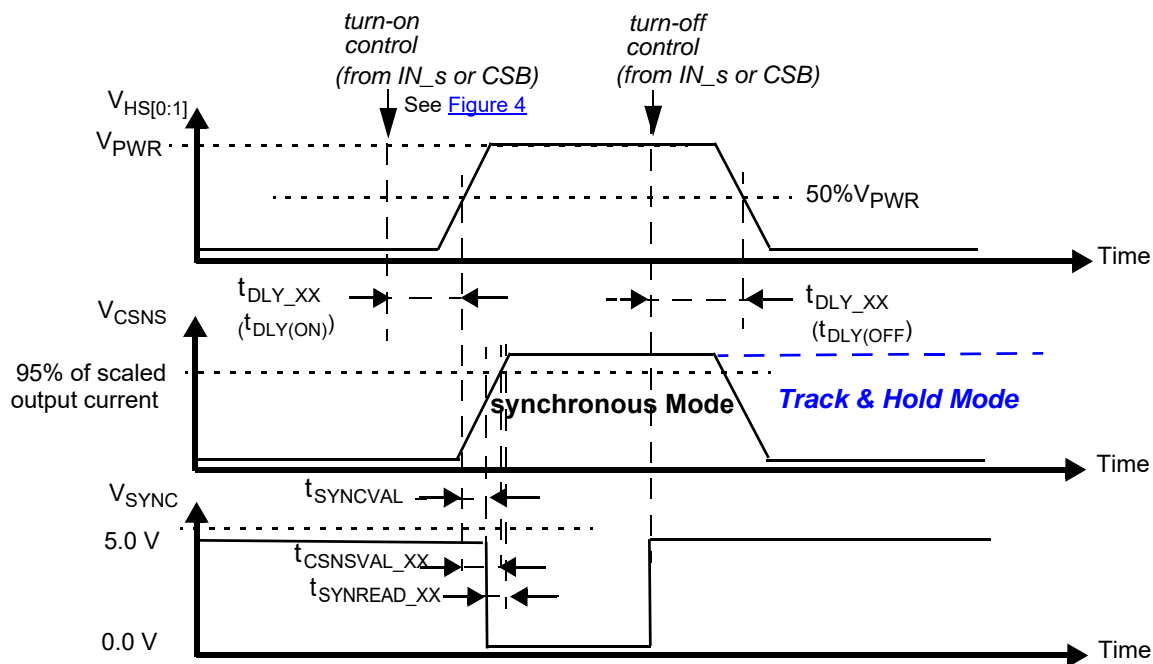

Figure 9. Synchronous and Track-and-Hold current sensing modes: associated delay and settling times
30. Time required to switch off the channel after detection of overtemperature (OT), overcurrent (OC), SC or UV error (time measured between start of the negative edge on the FSB pin and the falling edge on the output voltage until $V(\text{HS}[0:1]) = 50\%$ of V_{PWR}).
31. Settling time ($= t_{CSNSVAL_XX}$), SYNC output signal delay ($= t_{SYNVAL_XX}$) and Read-out delay ($= t_{SYNREAD_XX}$) are defined for a stepped load current using a $10\text{ }\Omega$ resistive load for $\text{CSNS_RATIO}_s = 0$. (see Figure 9 and Output current monitoring \(CSNS\)).
The CS pin allows independent current monitoring of channel 0 or channel 1 up to the steady state overcurrent threshold. It can also be used to sense the device temperature. The different functions are selected by setting bits CSNS1_en and CSNS0_en to the appropriate value (Table 23). When the CSNS pin is sensed during switch-off in the (optional) track & hold mode (see Figure 9), it outputs the scaled value of the load current as it was just before turn-Off. When several devices share the same pull-down resistor, the CSNS pins of devices the current of which is not monitored must be tri-stated. This is accomplished by setting CSNS0_en = 0 and CSNS1_en = 0 in the GCR register (Table 10). Settling time ($t_{CSNSVAL_XX}$) is defined as the time between the instant at the middle of the output voltage's rising edge ($HS[0:1] = 50\%$ of V_{PWR}), and the instant at which the voltage on the CSNS-pin has settled to $\pm 5.0\%$ of its final value. Anytime an overcurrent window is active, the CSNS pin is disabled (see Overcurrent detection on resistive and inductive loads). The current and temperature sensing functions are unavailable in Fail-safe mode and in Normal mode when operating without the V_{DD} supply voltage. In order to generate a voltage output, a pull-down resistor is required ($R(CSNS)=1.0\text{ k}\Omega$ typ. and $470 < R(CSNS) < 10\text{ k}$). When the current sense resistor connected to the CSNS pin is disconnected, the CSNS voltage is clamped to $V_{CL(CSNS)}$. The CSNS pin can source currents up to about 5.6 mA.
To synchronize current sensing with an external process, the SYNC signal can be connected to a digital input of an external MCU. SYNC is asserted logic low when the current sense signal is accurate and ready to be read. The current sense signal on the CSNS pin has the specified accuracy $t_{SYNREAD_XX}$ seconds after the falling edge on the SYNC pin (Figure 9) and remains valid until a rising edge is generated. The rising edge that is generated by the SYNC pin at the turn-OFF instant (internal or external) may also be used to implement synchronization with the external MCU. Parameter $t_{SYNCVAL_XX}$ is defined as the time between the instant at the middle of the output-voltage rising edge ($HS[0:1] = 50\%$ of V_{PWR}), and the instant at which the voltage on the SYNC-pin drops below 0.4 V (V_{SOL}). The SYNC pins of different devices can be connected together to save μ -controller input channels. However, in this configuration, the CSNS function of only one device should be active at a time. Otherwise, the MCU does not determine the origin of the SYNC signal. The SYNC pin is open drain and requires an external pull-up resistor to VDD.